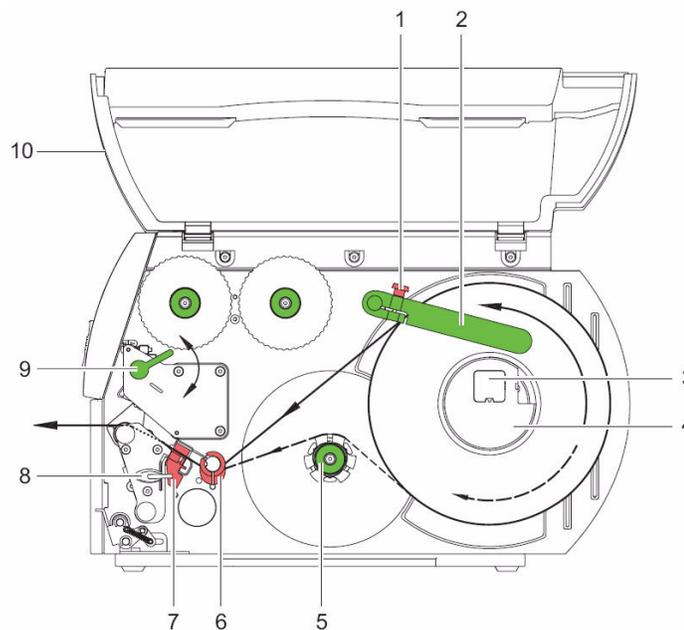

Figure 4. Loading Labels from a Roll
Note: For adjustments and simple installation work, use the accompanying hexagonal wrench located in the bottom section of the print unit. See Figure 4, item 8. No other tools are required for the work described here.
See Figure 4 for the following references.
- Turn lever (Figure 4, item 9) clockwise to lock the printhead.